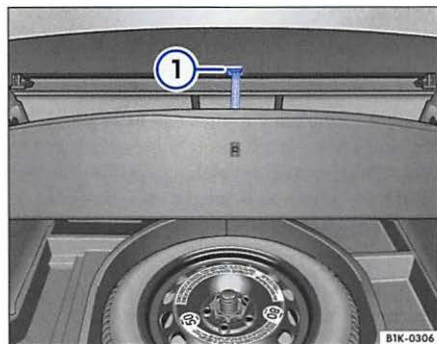

Fig. 20 Floor covering lifted up
Lift up the floor panel and attach it to the hook on the upper edge of the luggage compartment ⇒ fig. 20 ①.
- Hook the floor panel into the upper edge of the luggage compartment page 80, **fig. 20** so that you have both hands free when removing the spare wheel.
- Hook the floor panel into the upper edge of the luggage compartment page 80, **fig. 20** .